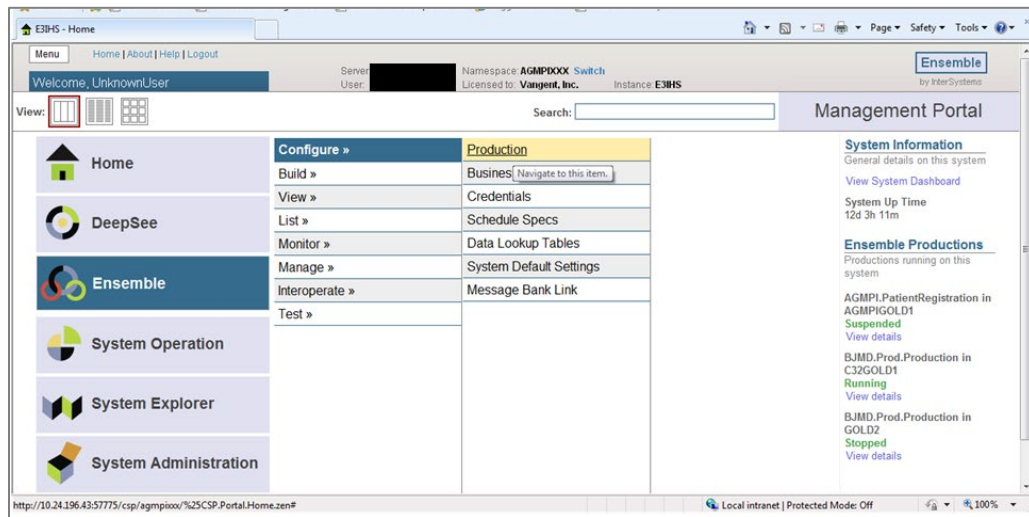

Figure 8-10: Management Portal Configure Production page
3. Click **Ensemble**, then click **Configure**, then click **Production**, as shown in Figure 8-10.